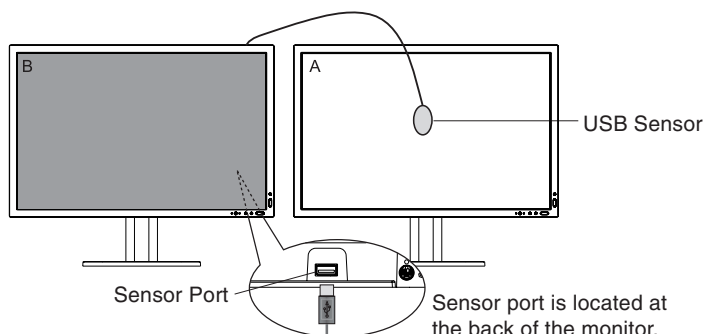

Figure C.1
1. Plug-in the USB sensor to the sensor port (**Figure C.1**).
8. The procedure will ask for the USB sensor to be placed on the center of the display panel (**Figure C.8**). Tilt the display panel approximately 5° backward and place the USB sensor in the center of the display panel (**Figure C.1**).